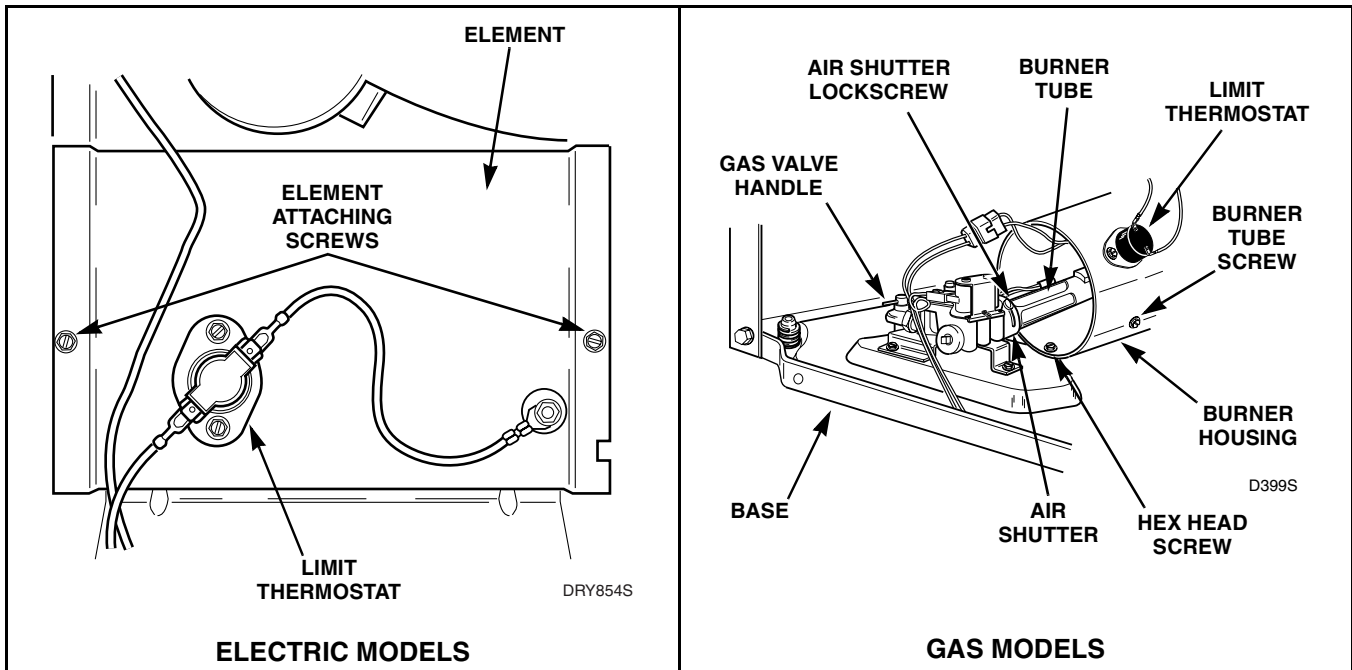

Figure 22
- (3) Remove screws holding thermostat to burner housing.
- c. If present, remove screw attaching burner housing to dryer base. Refer to *Figure 22*.
- b. Remove two hex head screws holding element and plate to heater box and pull element down and away from heater box. Refer to *Figure 22*.
- c. Disconnect wires from element terminals and limit thermostat, then remove limit thermostat. Refer to *Figure 22*.
- b. Refer to *Figure 22* for thermostat removal.